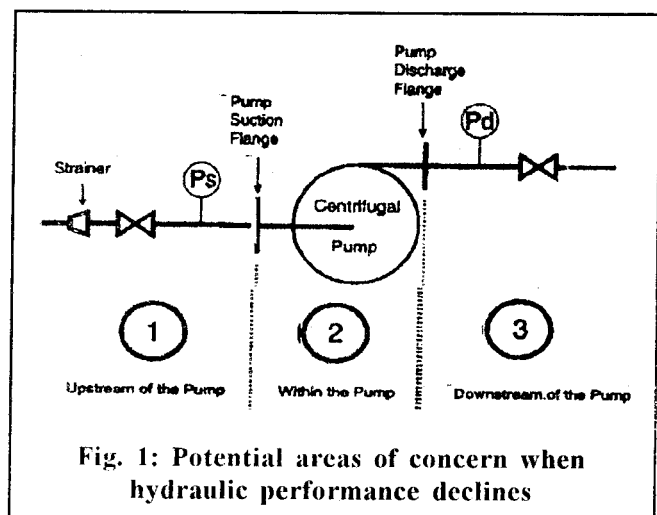

Fig. 1: Potential areas of concern when hydraulic performance declines
Proper maintenance does not start with repairs of worn out spare parts, but right at the time of selection and instillation. Following certain fundamental rules will help obtain the most reliable service, the least expensive maintenance and the longest possible life from the centrifugal pumps (Fig. 1).
- Do not operate pumps below the recommended minimum flow (Fig. 1).